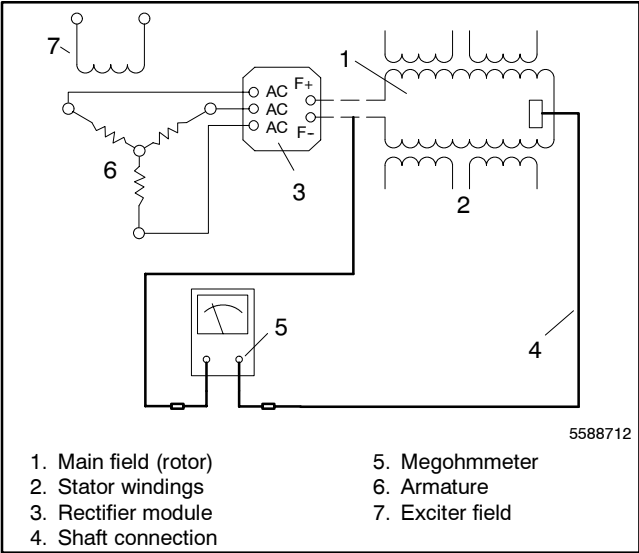

Figure 7-12 Megohmmeter Connections on Main Field
- Check the main field for a grounded condition by using a megohmmeter. Apply 500 volts DC to either field lead and the main field frame. Follow the instructions of the megohmmeter's manufacturer when performing this test. See Figure 7-12. A reading of approximately 500 kOhms (1/2 megohm) and higher indicates the main field is good. A reading of less than approximately 500 kOhms indicates the deterioration of the winding insulation and possible current flow to ground. Repair or replace the main field.